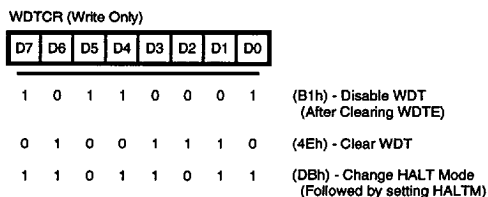

Figure 22. Watch-Dog Timer Command Register
**Watch-Dog Timer Command Register (WDTCR; I/O address F1h).** In conjunction with the WDTMR, this register works as a "Second key" for the Watch-Dog Timer. This register is Write-Only (Figure 22).